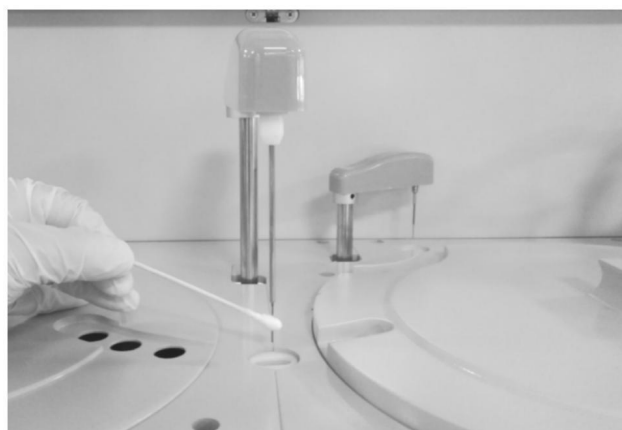

Figure 10-18 Clean R&S needle outside
- Scrub the outer wall with cotton swab dipped in alcohol (During the process of cleaning, do not bend the needle). As shown in figure 10-18.